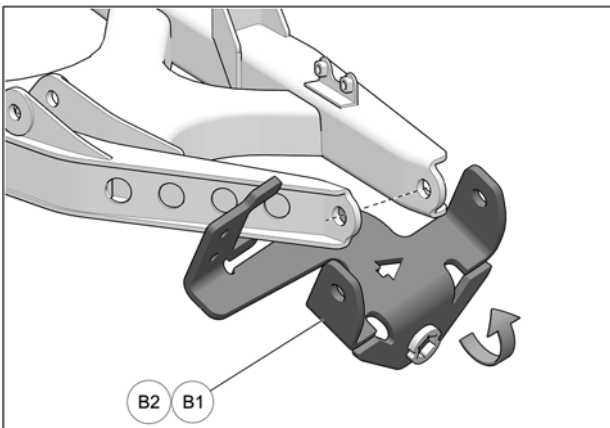

Fig. 6
6. Pivot and work anchor bracket (**B1-B2**) upwards to install on suspension arm. Align anchor bracket bolt holes with suspension arm bolt holes. See Fig. 6